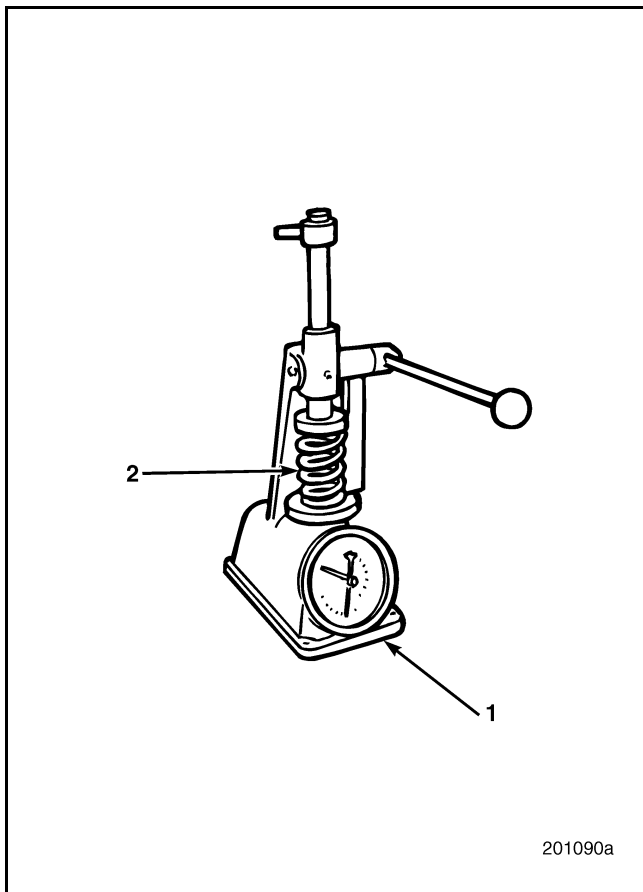

Figure 268 — Checking Valve Spring Pressure
2. Check the springs on the universal spring tester J 22738-02 as shown in Figure 268. Measured pressures should be within the allowable limits when springs are compressed to the specified "valve open" and "valve closed" dimensions. **Replace the springs if pressures are not within the specifications listed below:**